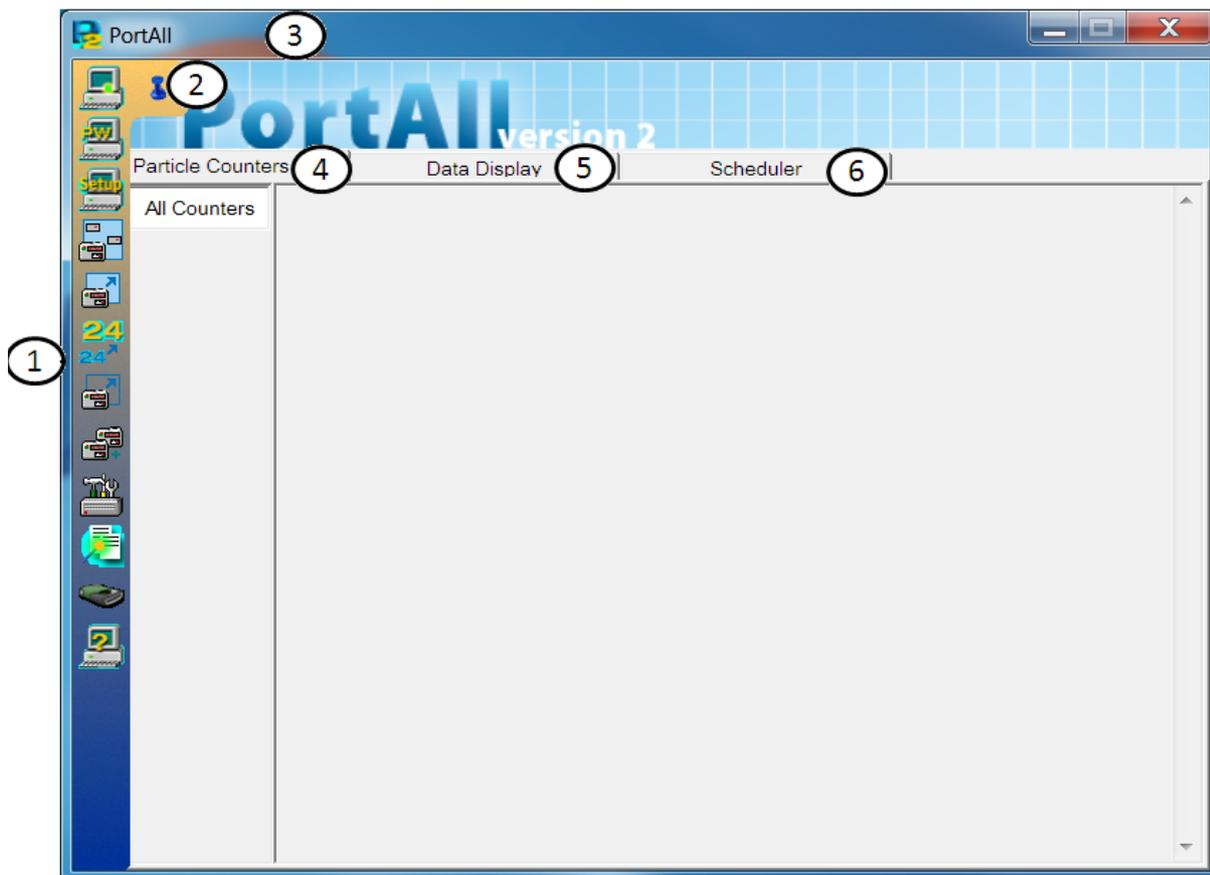

Figure 3 PortAll Main Screen
3. Click **LOGIN**. The main PortAll screen opens (Figure 3).